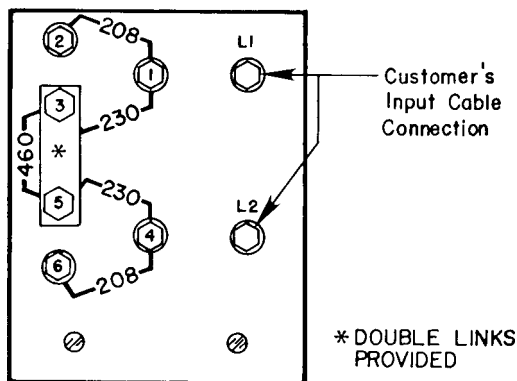

Figure 2-1. Input Terminal Board
① DC and AC balanced wave input current rating.
② AC unbalanced wave input current rating.
- B. For access to input terminal board, remove the screws which secure the right side panel of the power source. The input terminal board, Figure 2-1, is clearly marked to show the available primary voltage connections which may be used. Set the voltage links on this board to match your actual incoming voltage (208, 230, or 460 volt single-phase). As shipped from the factory, the input terminal board voltage links are set up for 460 volt operation.